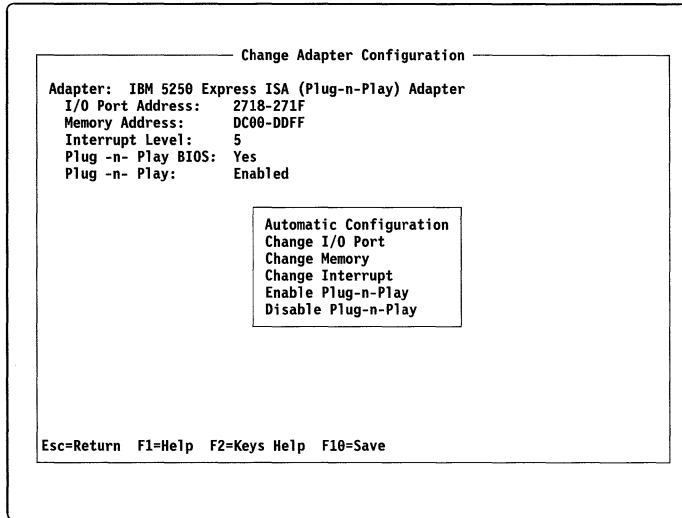

Figure 21. Change Adapter Configuration Screen
1. From the 5250 Adapter Configuration Menu, select the Change Adapter Configuration option. The Change Adapter Configuration screen, similar to the one shown in Figure 21, appears.